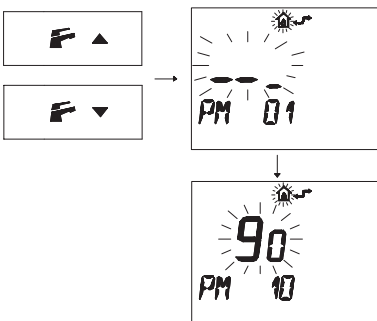

Fig. 7.41
- Press buttons  or  to display the "PM10" program for selecting the ignition frequency (Fig. 7.41).
In Fig. 7.41 a SET programmed at 90 is displayed corresponding to a re-ignition time of about 3 minutes.